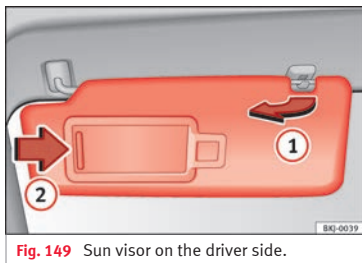

Fig. 149 Sun visor on the driver side.
- The sun visor can be pulled out of its mounting and turned towards the door >>> **Fig. 149** ①.